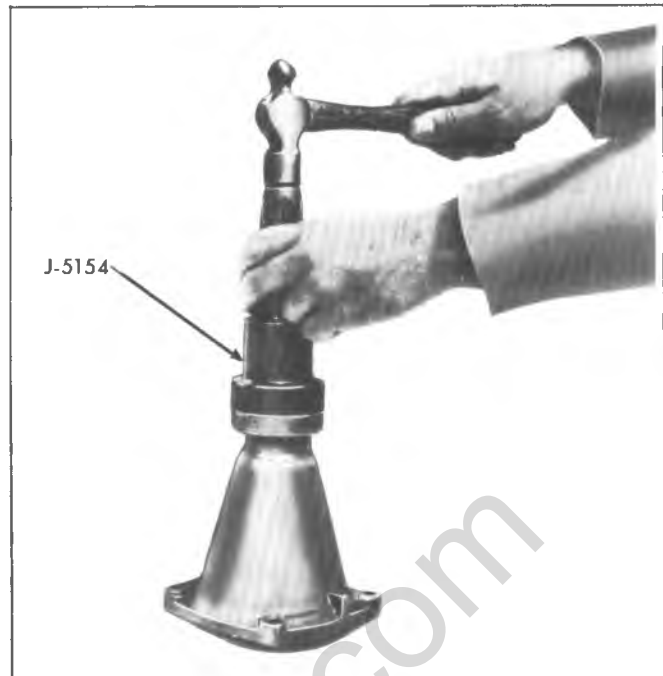

Fig. 7A-16--Installing Oil Seal into Extension Housing
24. Disconnect transfer case-to-transmission strut rod. Remove transfer case from transmission (includes: new "O" ring seal). Refer to Fig. 7A-15.